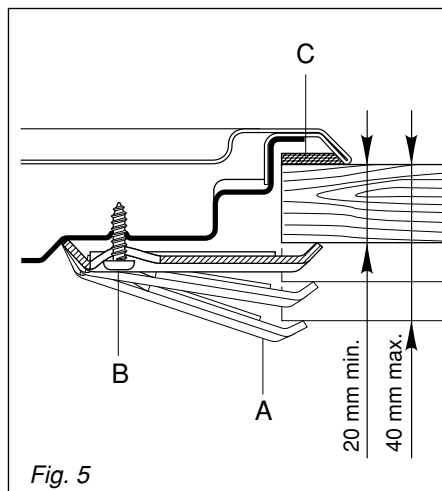

Fig. 5
3. Attach the hob to the worktop using the brackets supplied as indicated in figure 5.